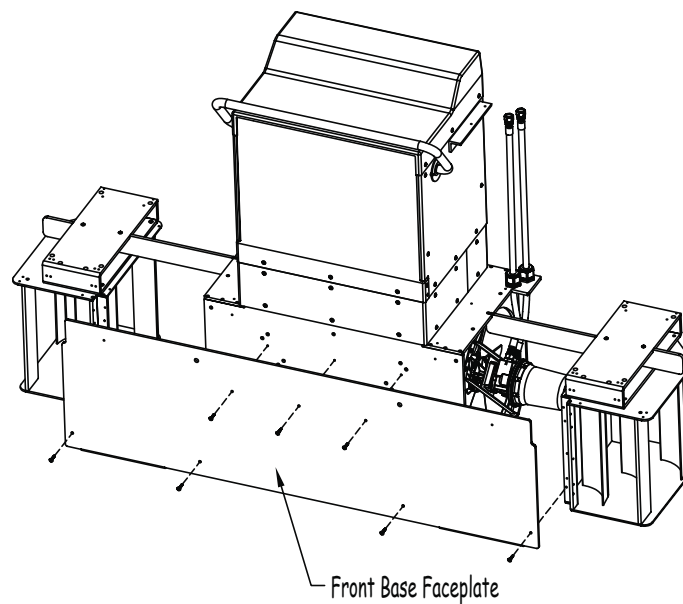

Fig 9
9. Remove the front base faceplate by removing the screws (Fig 9).